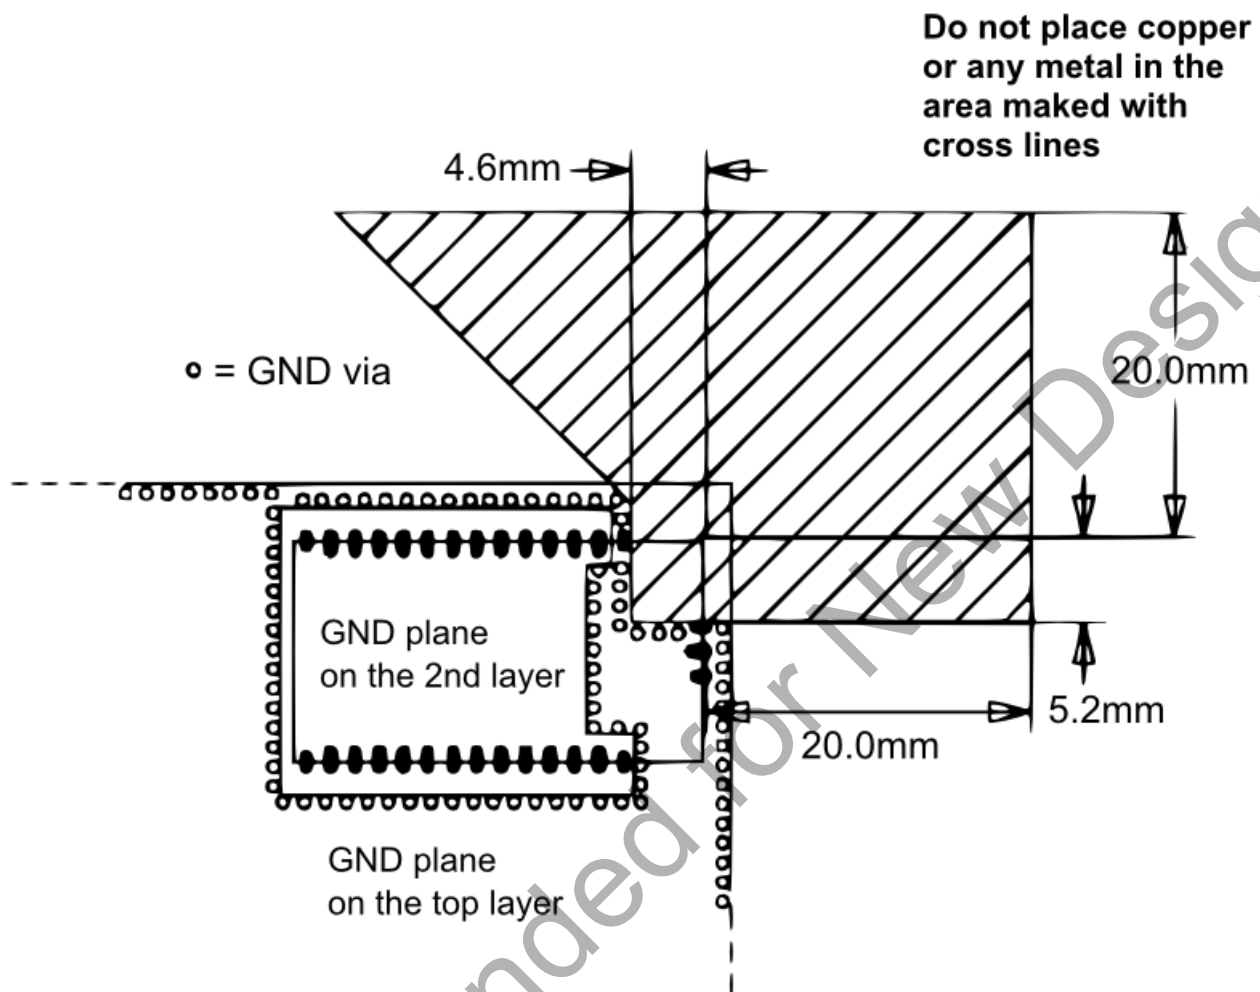

Figure 26: Suggested PCB design around ACX antenna with the module at the edge of PCB
It is strongly recommended to use good layout practices to ensure proper operation of the module. Placing copper or any metal near antenna deteriorates its operation by having effect on the matching properties. Metal shield around the antenna will prevent the radiation and thus metal case should not be used with the module. Use grounding vias separated max 3 mm apart at the edge of grounding areas to prevent RF penetrating inside the PCB and causing an unintentional resonator. Use GND vias all around the PCB edges. Figure 26 illustrates recommended PCB design around the antenna of WT12 when the module is placed at the edge of a PCB.
Do not place copper on the top layer under the module, as shown in Figure 26. The module has vias on the area shown, which can cause short circuit if there is copper underneath. Any metal placed closer than 20 mm in any direction from the antenna changes the matching properties and thus will considerably deteriorate the RF performance of the module.
- Do not place a ground plane underneath the antenna. The grounding areas under the module should be designed as shown in Figure 26.